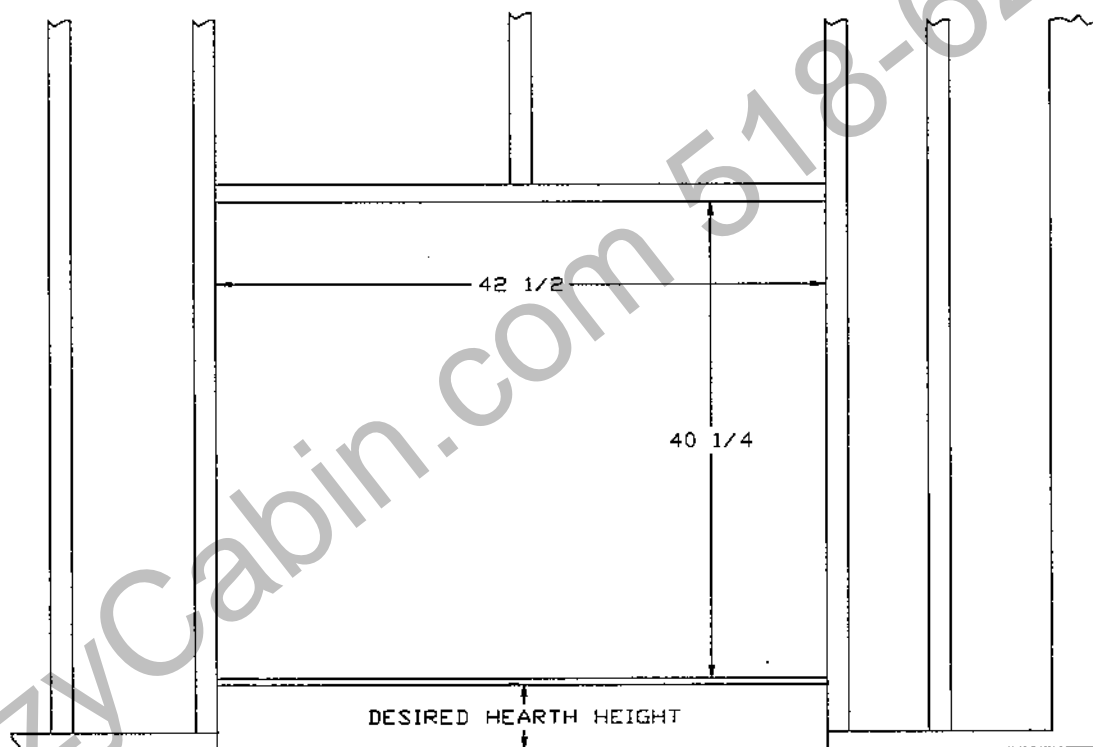

FIGURE 4
6. Rough in the wall enclosure. The minimum rough opening dimensions are 42 1/2" wide, 40 1/4" high and 21" deep. Build the hearth to the desired size and height. See Figure 4.